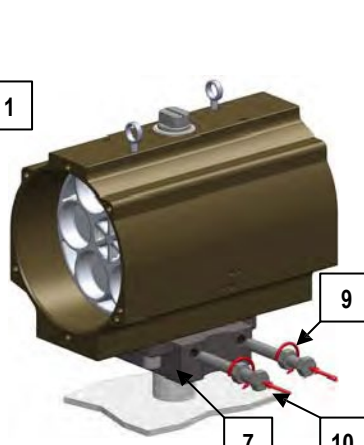

Fig. 25
9. Introduce the adjustment screws (10) with nut (9) into the plate (7) to adjust the travel stop (see Fig. 25 and paragraph 9).